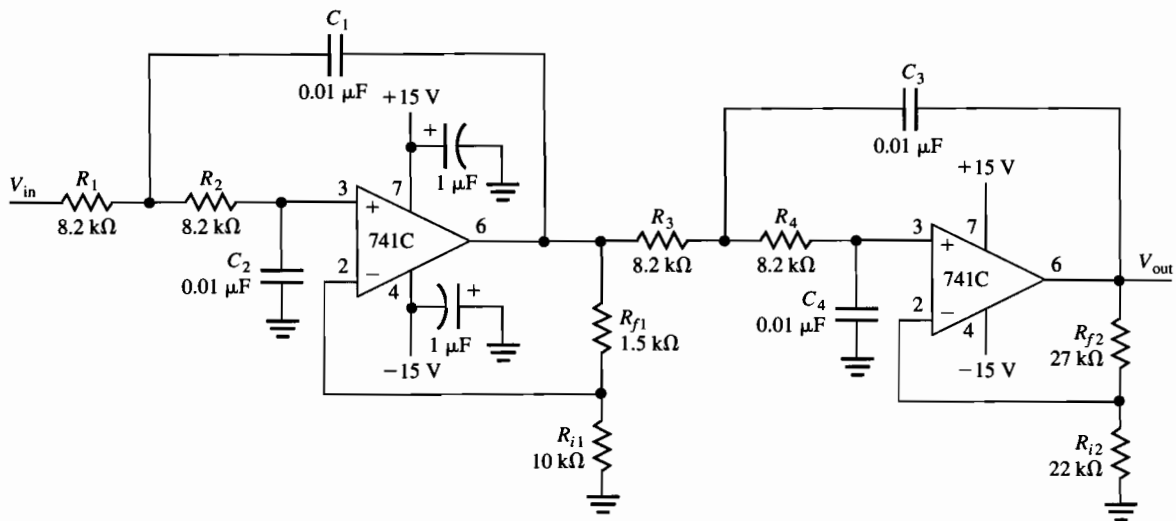

Figure 48–2
Figure 48–1 illustrates a two-pole active low-pass and a two-pole active high-pass filter. Each of these circuits is a *section*. To make a filter with more poles, simply cascade these sections, but change the gains of each section according to the values listed in Table 48–1. The cutoff frequency will be given by the equation
- Step 3** Determine the gain required for each section and specify R_f and R_i . From Table 48–1, the gain of section 1 is required to be 1.152, and the gain of section 2 is required to be 2.235. Choose resistors that will give these gains for a noninverting amplifier. The choices are determined by considering standard values and are shown on the completed schematic, Figure 48–2.